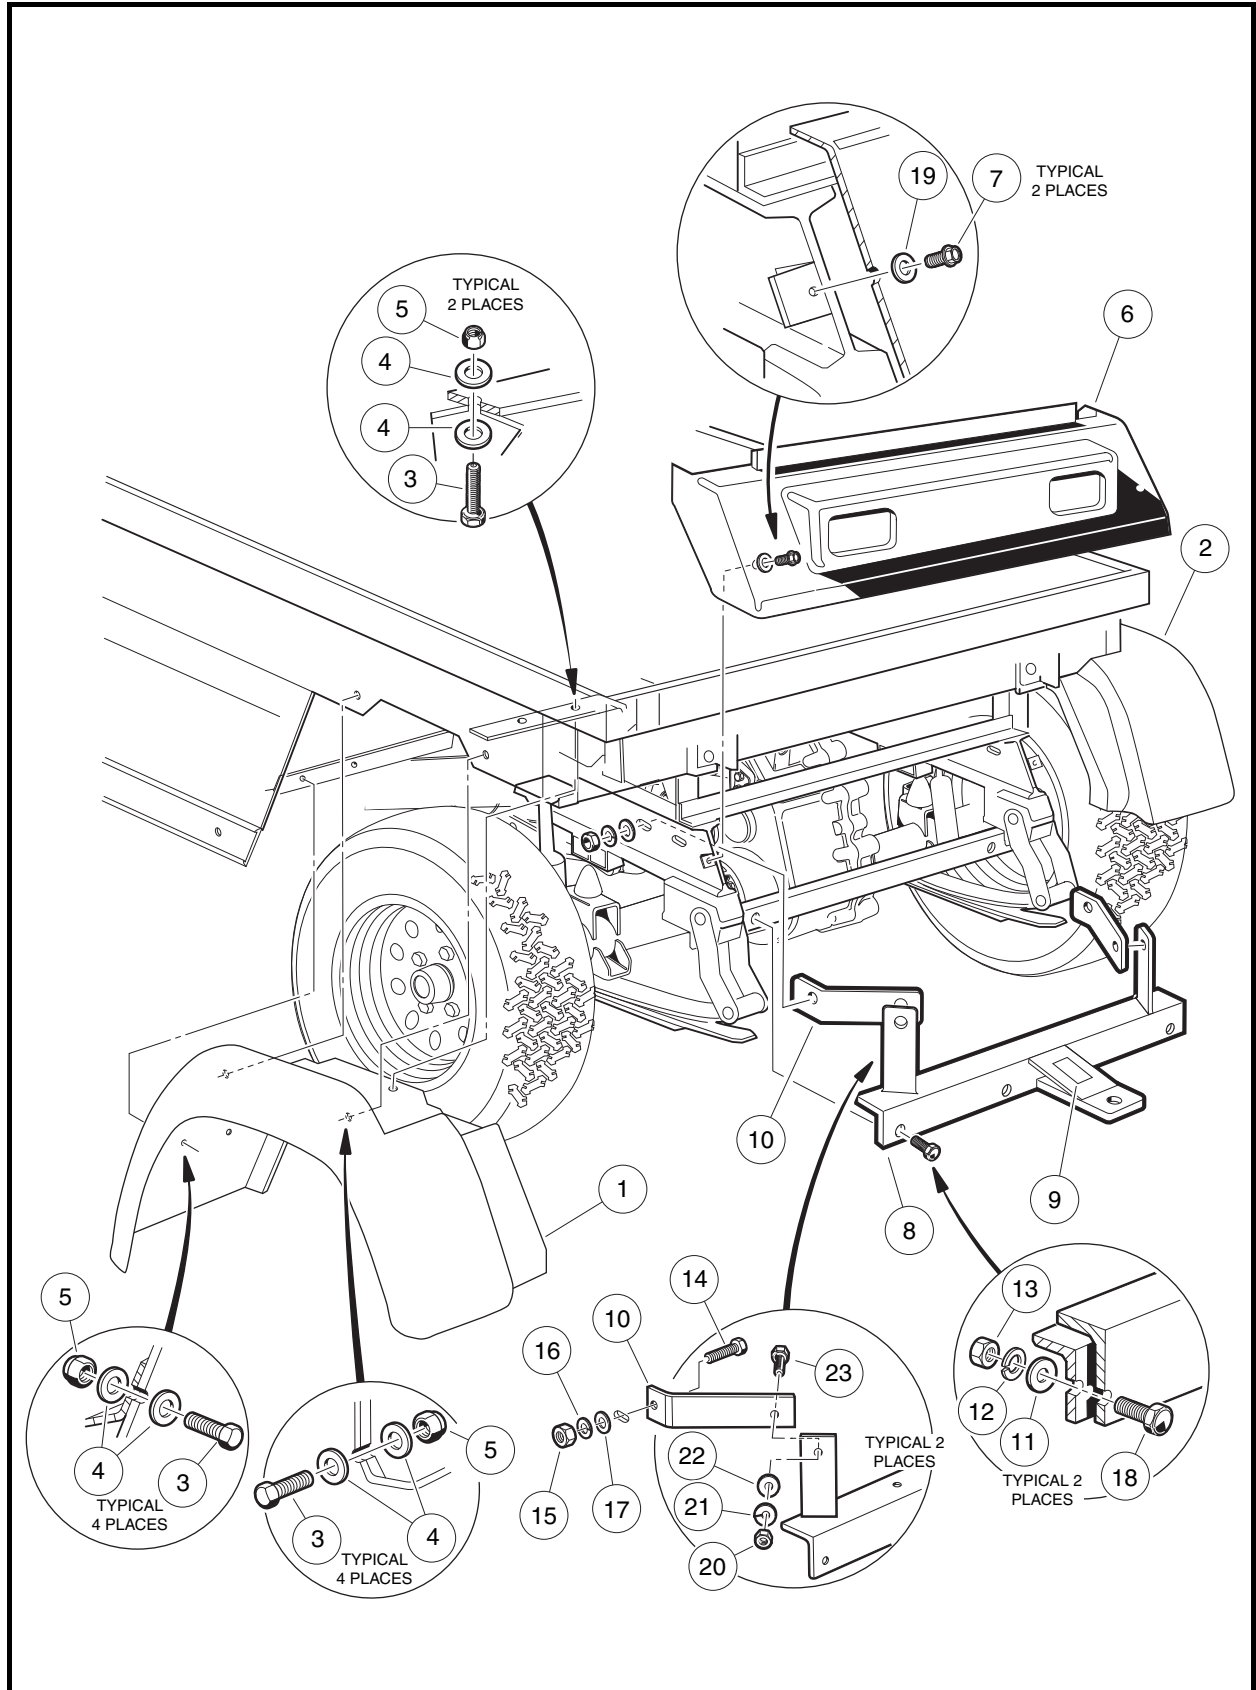
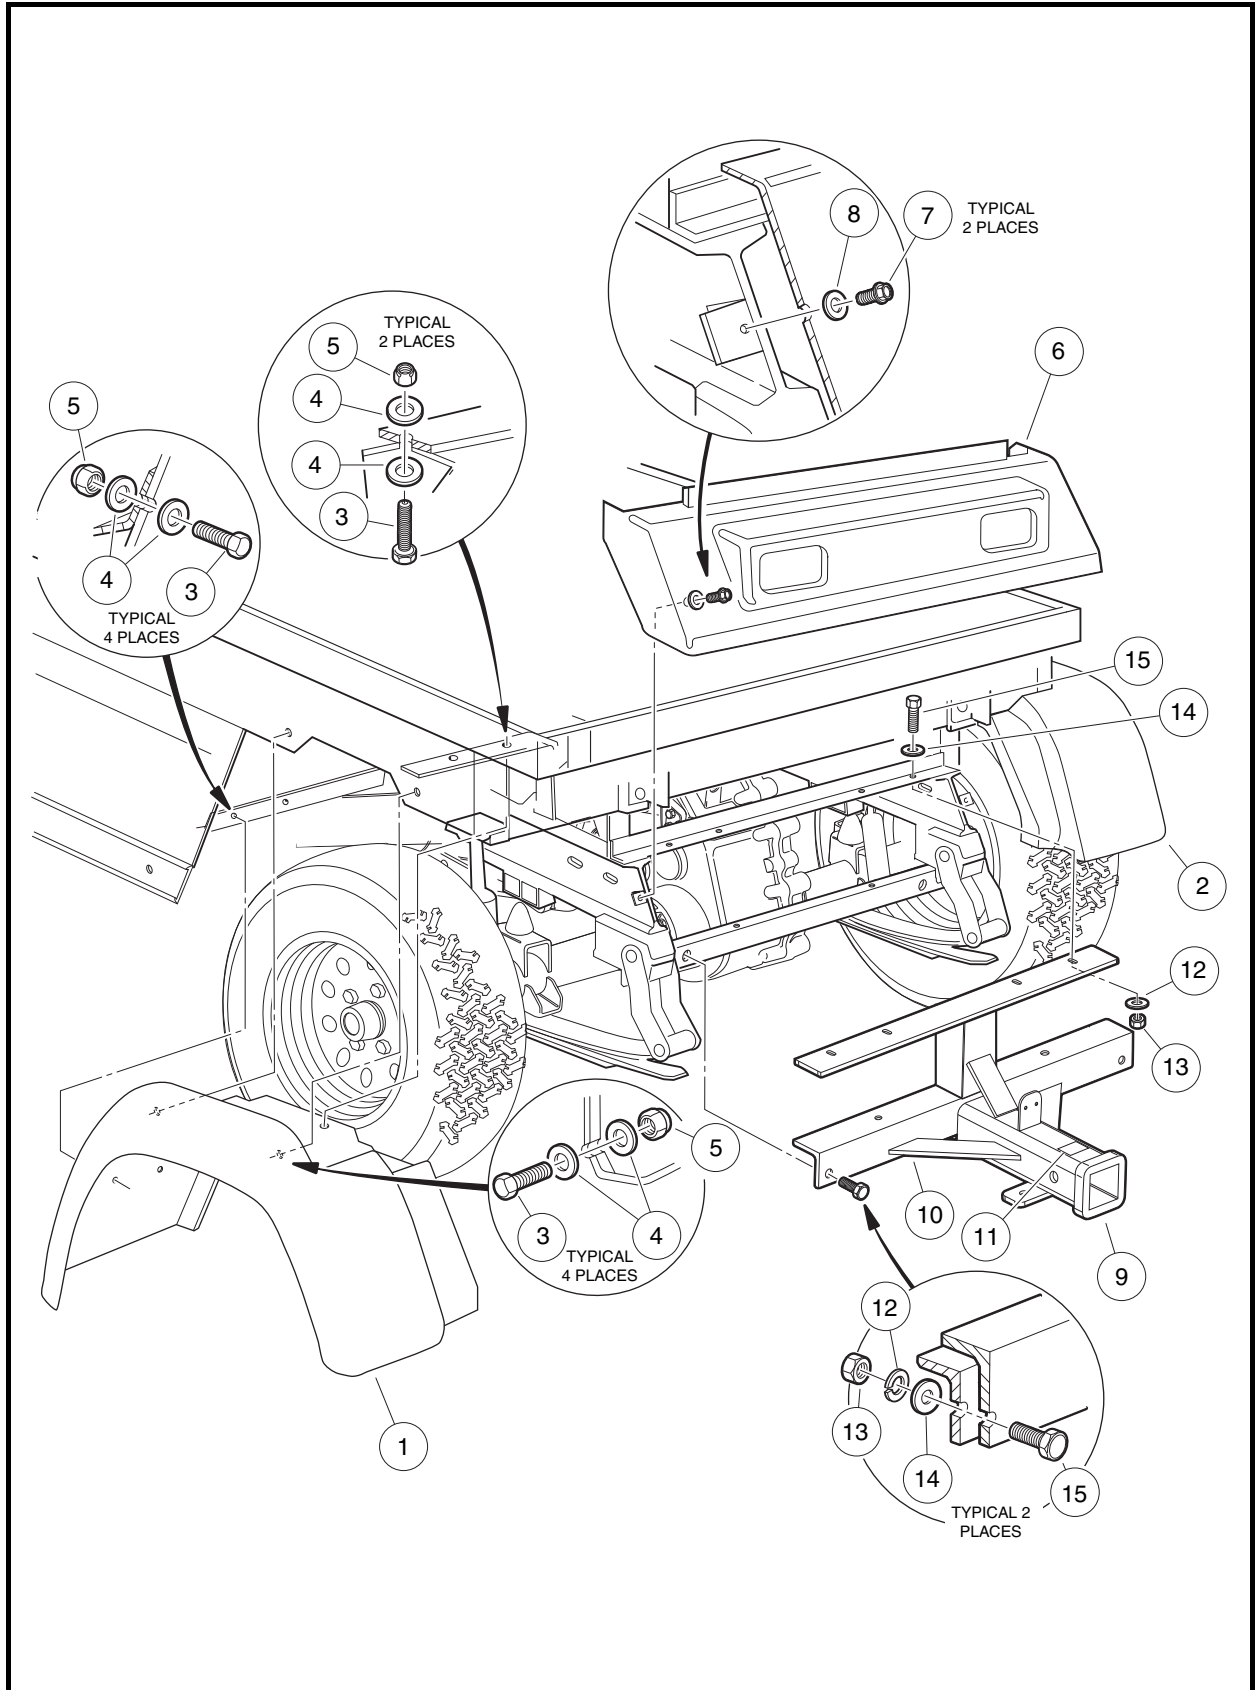

Figure 4-7 Turf 272/Carryall 272/XRT 1200 Rear Fender, Tailskirt, and Trailer Hitch
Figure 4-8 Carryall 472/XRT 1200 SE Rear Fender, Tailskirt, and Receiver Hitch
1. Remove one 1/4-20 nylon locknut (5), fender washers (4) and 1/4-20 x 1-inch hex-head bolt (3) from the top, and underneath, of fender (1) (**Figure 4-7, Page 4-16 or Figure 4-8, Page 4-17**).
2. Remove the two 1/4-20 nylon locknuts (5), fender washers (4) and 1/4-20 x 1-inch hex-head bolts (3) from the front surface of the fender (1).
3. Remove the two 1/4-20 nylon locknuts (5), fender washers (4) and 1/4-20 x 1-inch hex-head bolts (3) attaching the fender wall (1) to the vehicle frame.
4. Remove fender (1) from the vehicle.
1. Reverse the rear fender removal process. Tighten bolts to 35 in-lb (4.0 N·m) (**Figure 4-7, Page 4-16 or Figure 4-8, Page 4-17**). See following NOTE.
1. Remove the two thread-forming screws (7) and flat washers (8) from the tailskirt (6) and slide tailskirt from under the back edge of the rear of the body and vehicle frame (**Figure 4-7, Page 4-16 or Figure 4-8, Page 4-17**).
1. Installation is the reverse of removal. Tighten screws (7) to 55 in-lb (6.2 N·m) (**Figure 4-7, Page 4-16 or Figure 4-8, Page 4-17**).
- 1.2. Remove two 5/16-18 hex nuts (20), lockwashers (21), flat washers (22) and 5/16-18 x 1-inch bolts (23) from hitch brace (10) and hitch frame (8) (**Figure 4-7, Page 4-16**).
- 1.1. Reverse the trailer hitch removal process and tighten bolts to 15 ft-lb (20.3 N·m) (**Figure 4-7, Page 4-16**).
- 1.2. Remove two 5/16-18 hex nuts (13), lockwashers (12), flat washers (14) and 5/16-18 x 1-inch bolts (15) from the top of hitch (10) brace (**Figure 4-8, Page 4-17**).
- 1.1. Reverse the receiver hitch removal process and tighten bolts to 15 ft-lb (20.3 N·m) (**Figure 4-8, Page 4-17**).